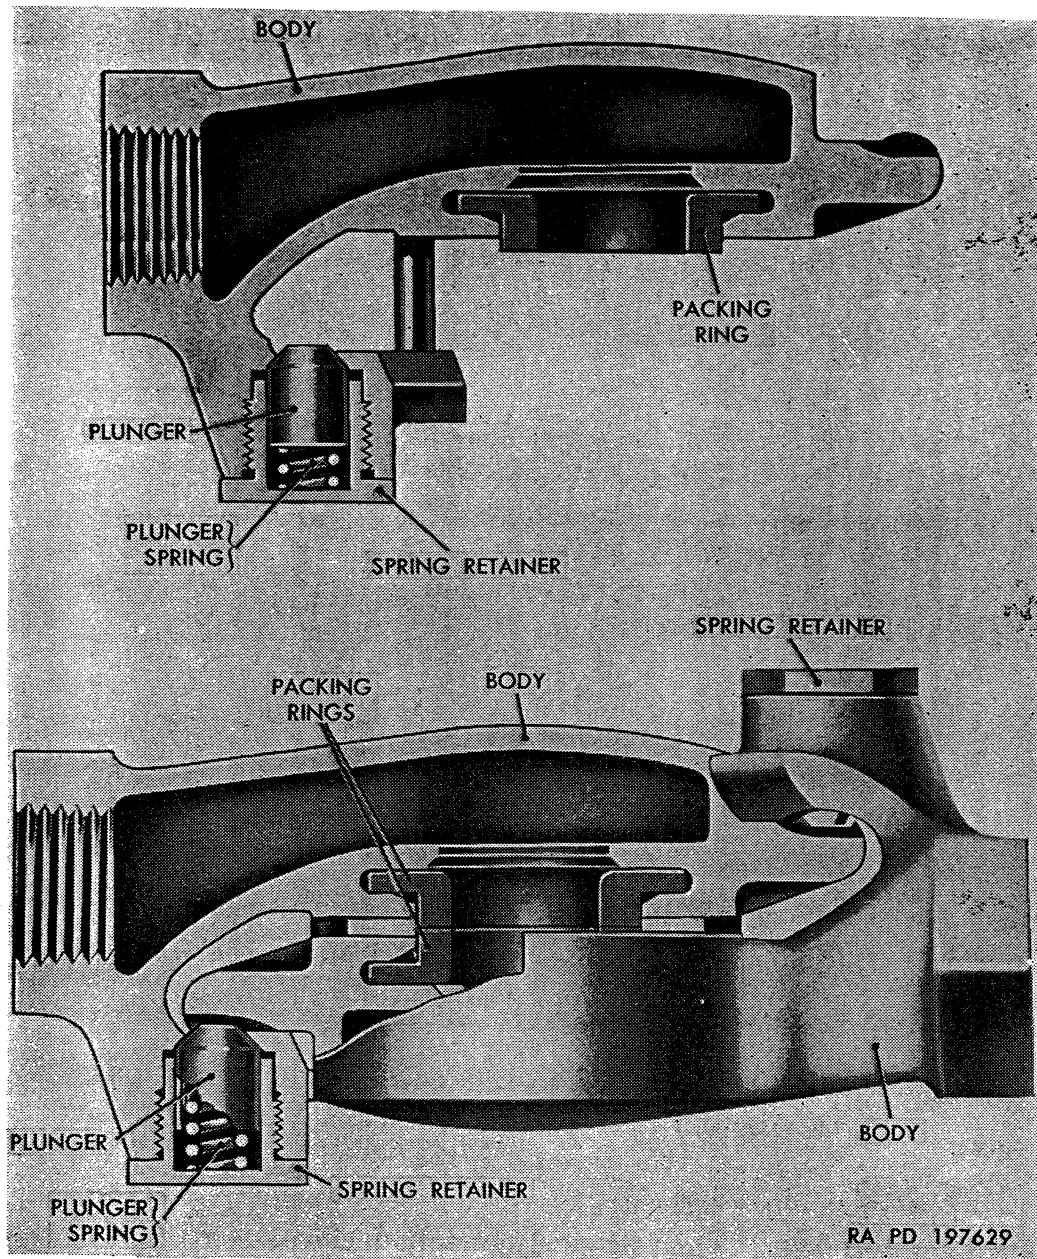
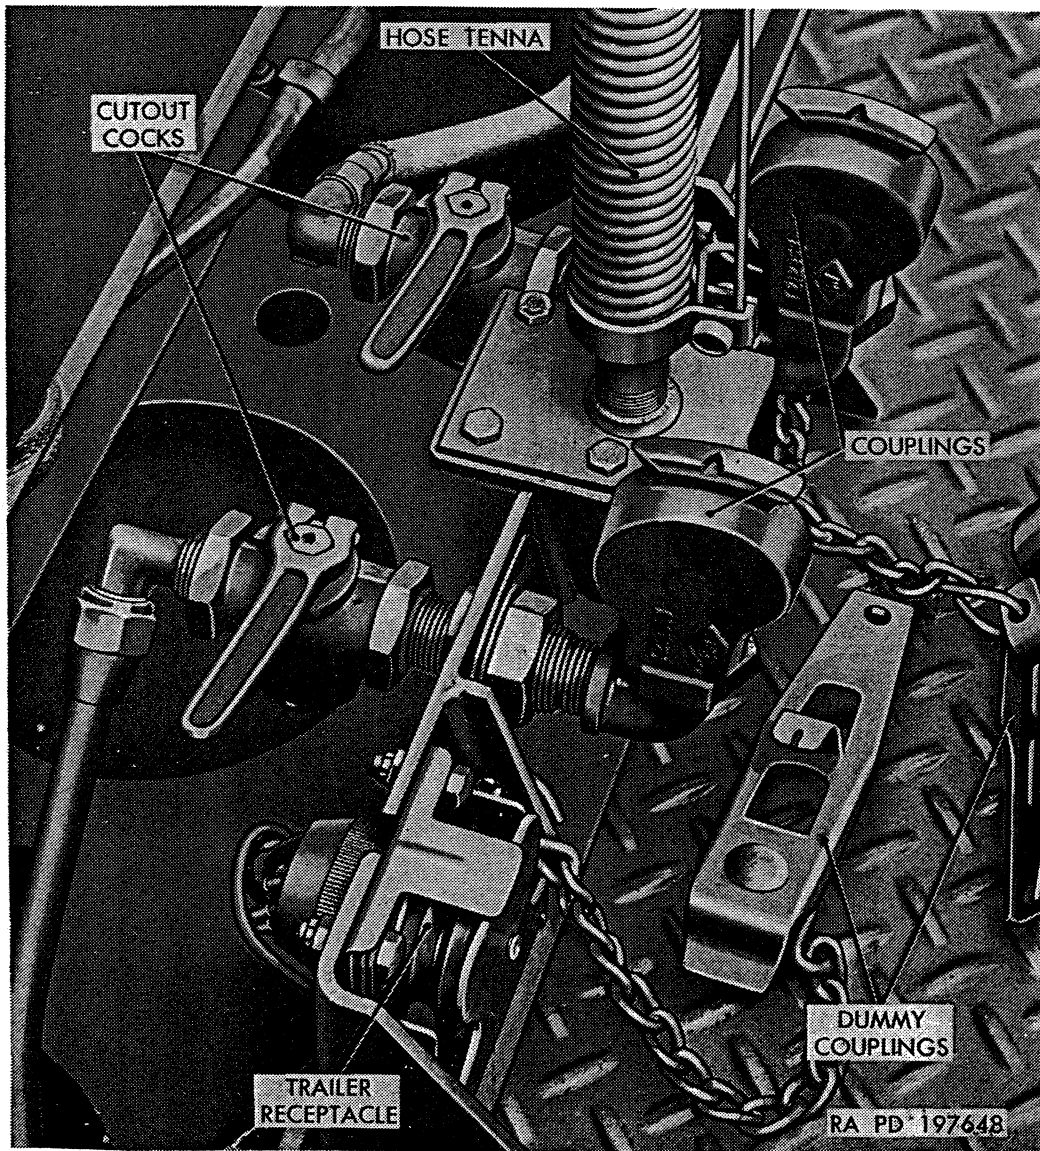

Figure 256. Sectional views of trailer brake hose coupling.
Figure 258. Trailer brake couplings and cutout cocks installed at rear of cab (M221).
*a. General.* Two air line couplings at rear end of vehicle on all models, except gasoline tank truck M217 and water tank truck M222 provide a means of connecting the trailer brake system to the truck brake system. Coupling on right side of vehicle, marked **EMERGENCY**, is connected directly to air reservoir on truck, and delivers a constant supply of air pressure to the trailer air system. Coupling on left side, marked **SERVICE**, is connected to the air-hydraulic cylinder control valve, and delivers air pressure to the trailer brake operating valve when truck brakes are applied. Dummy couplings, attached to frame brackets by chains, are provided to seal trailer air couplings against the entrance of dirt when not in use. A cutout cock at each trailer coupling provides a means of shutting off the trailer brake air lines when not connected to trailer. On truck tractor M221, two additional trailer couplings and cutout cocks are installed at rear of cab (fig. 258) for connecting truck brake system to semitrailer brake system. Couplings and identification markings are identical to those installed at rear of vehicle. Use of trailer brake couplings is described in paragraph 44. Figure 256 shows a sectional view of a single coupling and a view of two couplings connected. When the two couplings are connected together, pressure is placed on two rubber packing rings, making an airtight seal.
- (2) *Plunger and spring replacement* (fig. 256). Unscrew spring retainer from body of coupling and remove spring and plunger. Place new plunger and spring in spring retainer, thread retainer into coupling body, and tighten. Make sure nose of plunger extends through body.